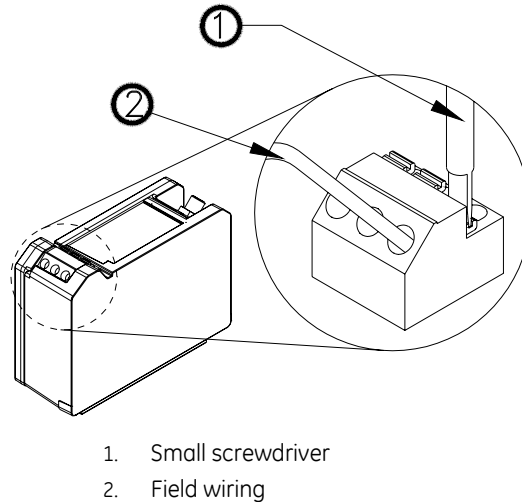

Figure 2-14: Inserting Field Wiring Into Proximator
4. Use a small regular screwdriver to push down the orange lever that corresponds to the position in the terminal block where you will install the field wire and insert the field wire (see Figure 2-14).